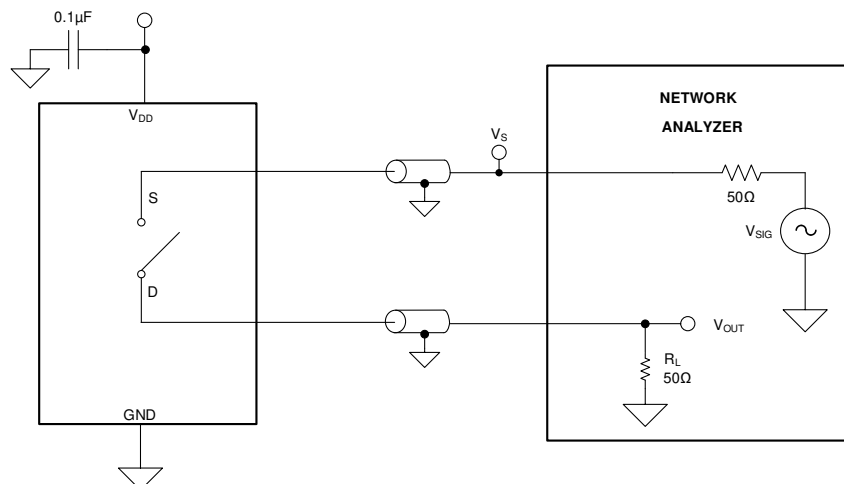

Figure 7-6. Off Isolation Measurement Setup
Off isolation is defined as the ratio of the signal at the drain pin (D) of the device when a signal is applied to the source pin (S) of an off-channel. The characteristic impedance, Z_0 , for the measurement is 50Ω. Figure 7-6 shows the setup used to measure off isolation. Use off isolation equation to compute off isolation.